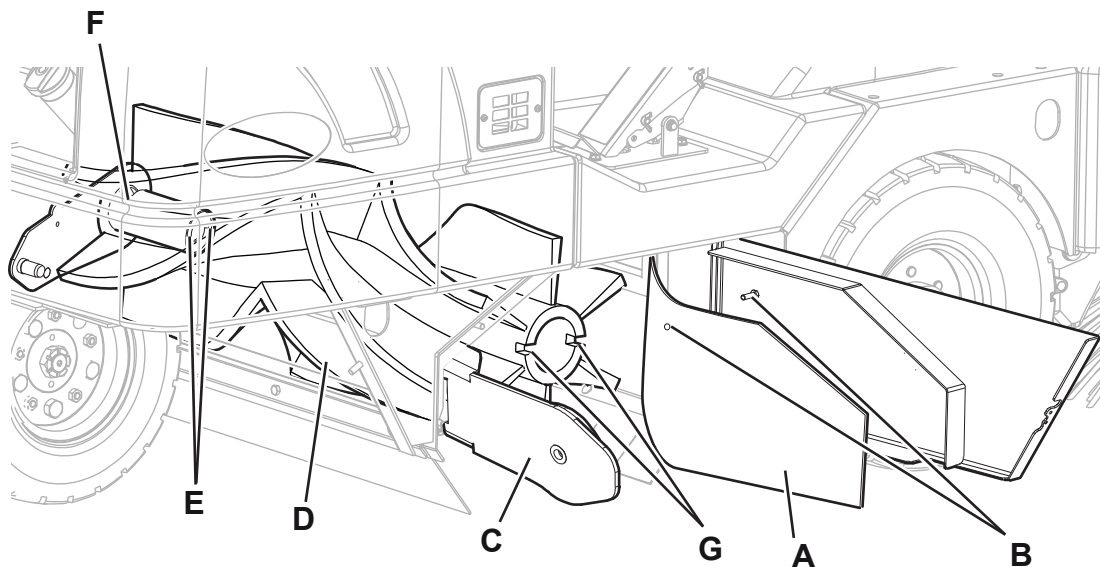

Figure 3
3. Turn the ignition key (57) and start the machine.
4. Lower the main broom with the lever (53).
5. Turn the ignition key (57) to "O" to stop the machine.
6. Open the right panel (18).
7. Move aside the right side skirt (A, Fig. 3) and fasten it with the pin (B).
8. Open the idler arm assembly (C) to access the main broom (D).